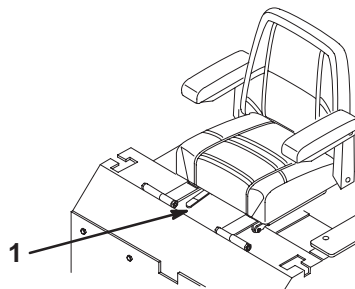

Figure 19
1. To adjust, move the lever sideways to unlock the seat (Fig. 19).